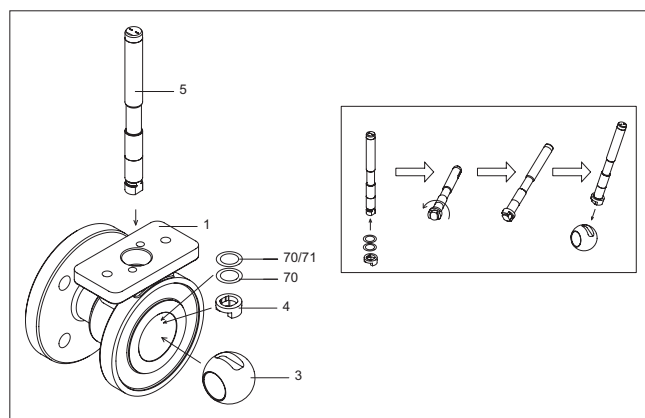

Fig. 27 Assembling the shaft in sizes 1" and 1 1/2"
- Place the shaft partly inside the body from above and place the thrust bearings (70, 71) on the shaft from inside the body. Place the spline driver (part 4, sizes 2"-8") on the shaft spline and lock it with a pin (50). Place the thrust ring (4, sizes 1"-1 1/2") on the shaft and lock it as illustrated in Figure 27. Put the ball (3) in its position so that the spline driver is in the ball slot. Pull the shaft to make sure that the pin locks the spline driver properly to the shaft. Place the packing (69), the removed studs (14) and the gland (9) in their position. Place the nuts (18) on the studs (14) and screw down them gently.